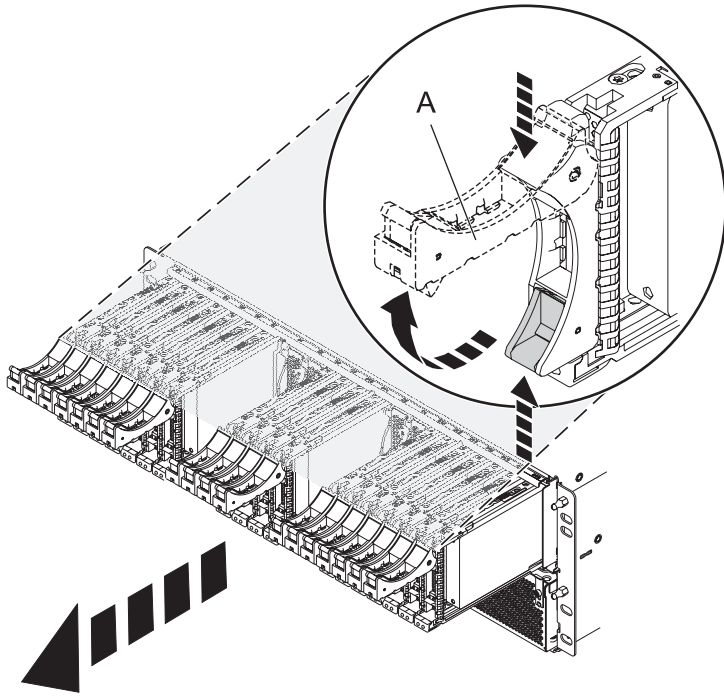

Figure 51. Removing the drives from the backplane
4. Remove the drives and fillers as shown in Figure 51 on page 68.